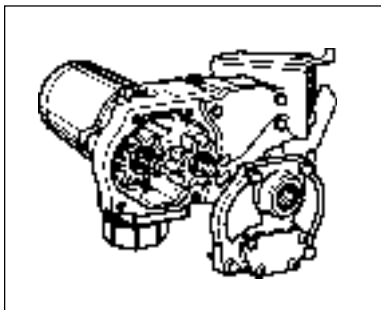

Figure 7
3. Lift the drive key and gears from the pump. (Figure 7)